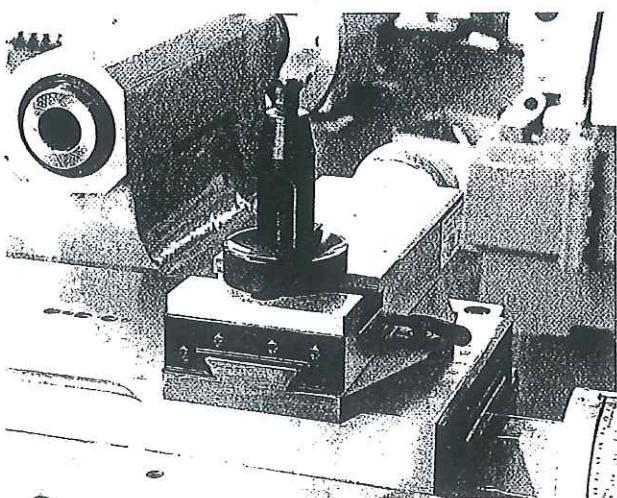

Figure 6
2. Loose Compound, cross feed or saddle. (**Figure 6**)